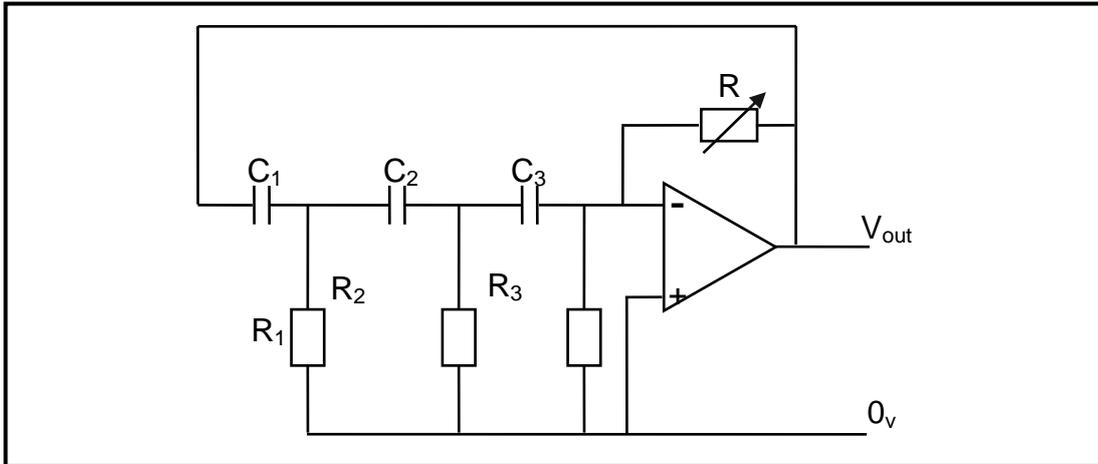

FIGURE 7.6: RC PHASE-SHIFT OSCILLATOR
7.10 With reference to FIGURE 7.6, answer the questions that follow.